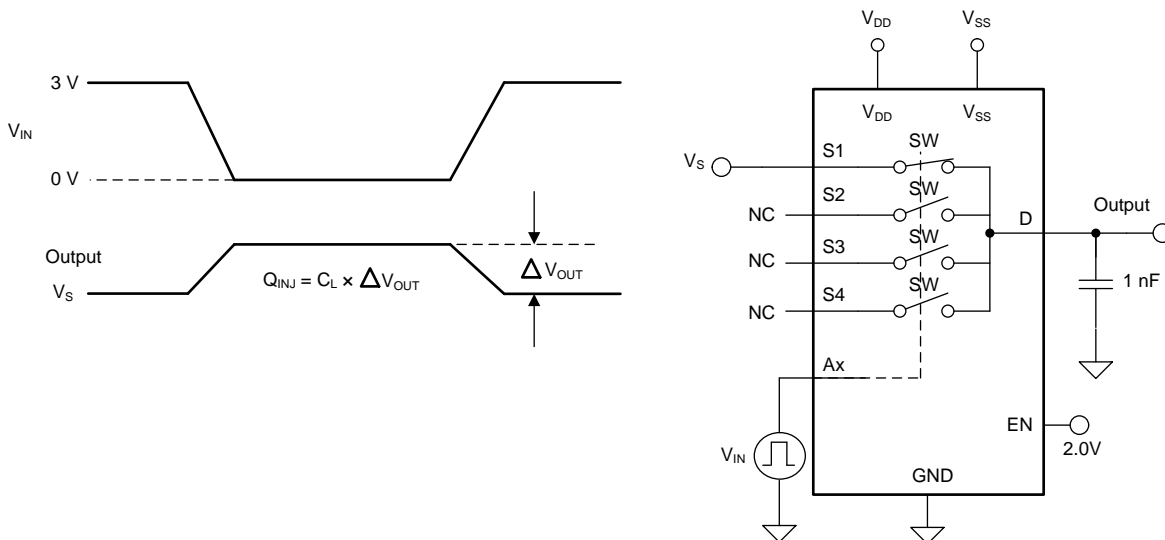

Figure 23. Charge-Injection Measurement Setup
The TMUX6104 have a simple transmission-gate topology. Any mismatch in capacitance between the NMOS and PMOS transistors results in a charge injected into the drain or source during the falling or rising edge of the gate signal. The amount of charge injected into the source or drain of the device is known as charge injection, and is denoted by the symbol Q_{INJ} . Figure 23 shows the setup used to measure charge injection from source (Sx) to drain (D).